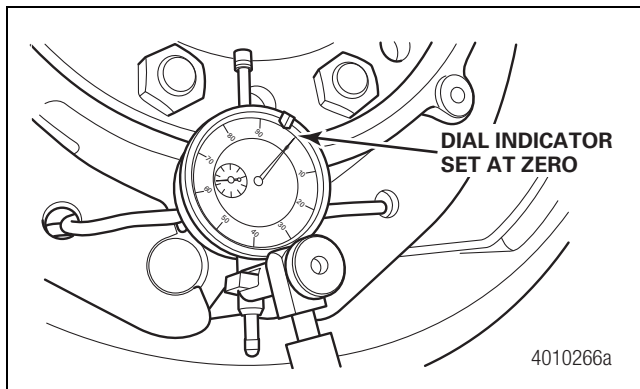

Figure 6.22
7. Set the dial indicator to ZERO. Figure 6.22.